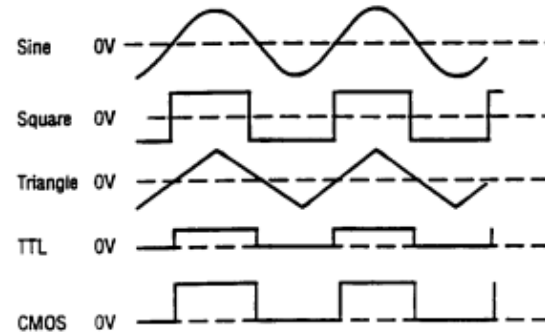

Figure 2. Output Waveform and Phase Relationship
1. Initially, verify that the **DUTY CYCLE** (17), **CMOS LEVEL** (15), **DC OFFSET** (14), **-20 dB** (11), and **SWEEP INT/EXT** (12) switches are in the OUT position (released). This will produce a symmetrical waveform unaffected by the sweep generator and other controls.
2. Plug the unit into an appropriate power source and turn it on by engaging the **POWER** switch (1).
3. Select the desired waveform (**SINE**, **SQUARE**, or **TRIANGLE**) by engaging one of the **FUNCTION** switches (3). Phase relationships of the waveforms are shown in Fig. 2.
4. Select the frequency of the waveform by depressing one of the **RANGE** switches (2). The output frequency is displayed, along with the appropriate measurement units, **KHz** or **Hz** (23), on the LED display.
5. Rotate the **COARSE** (20) frequency control to quickly set the output frequency to the approximate desired value. The **FINE** (19) frequency control can then be used to easily set the output to the specific desired value. The frequency selected is available at the **OUTPUT** jack (6). In addition, a digital signal, either **TTL** or **CMOS** is available at the **TTL/CMOS** jack (7) (refer to the "TTL/CMOS OUTPUT" section of this manual).